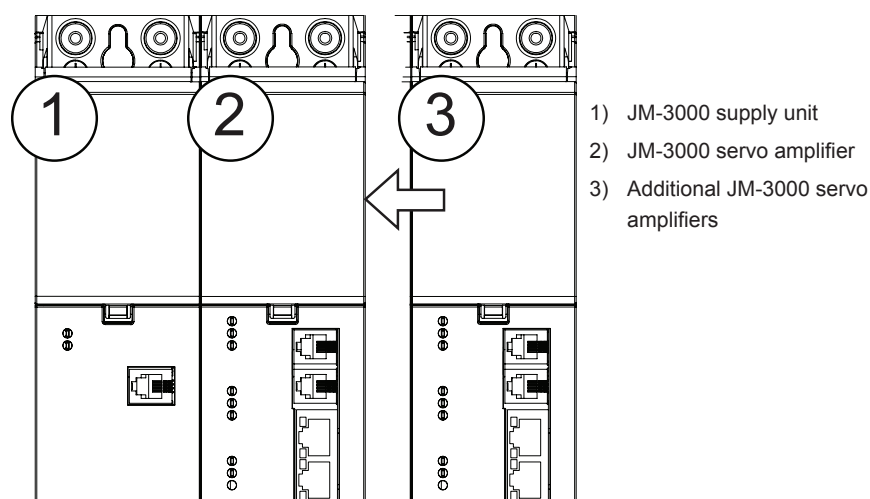

Fig. 2.1 Order of butt mounting
- The devices must be butt mounted in the prescribed order as shown in Fig. 2.1. A different order is not permitted, as this causes problems with the busbar and mutual thermal effects.
The minimum distance specified in Fig. 2.1 for above, below and in front applies to all devices (JM-3000 supply unit and JM-3000 servo amplifier). The distance above is important to avoid heat build-up, the distance below and in front is important to facilitate correct cable guidance.